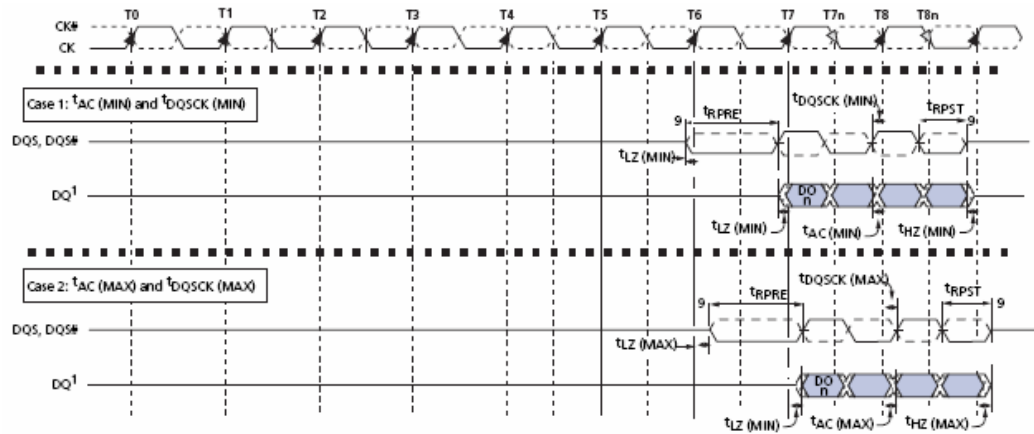

Figure 44 DQS Low-Impedance Time From CK/CK#
NOTE 18: tHZ and tLZ transitions occurs in the same access time as valid data transitions. These parameters are referenced to a specific voltage level which specifies when the device output is no longer driving (tHZ), or begin driving (tLZ). Figure 44 shows a method to calculate the point when device is no longer driving (tHZ), or begins driving (tLZ) by measuring the signal at two different voltages. The actual voltage measurement points are not critical as long as the calculation is consistent. tLZ(DQ) refers to tLZ of the DQ's and tLZ(DQS) refers to tLZ of the (U/L/R) DQS each treated as single-ended signal.